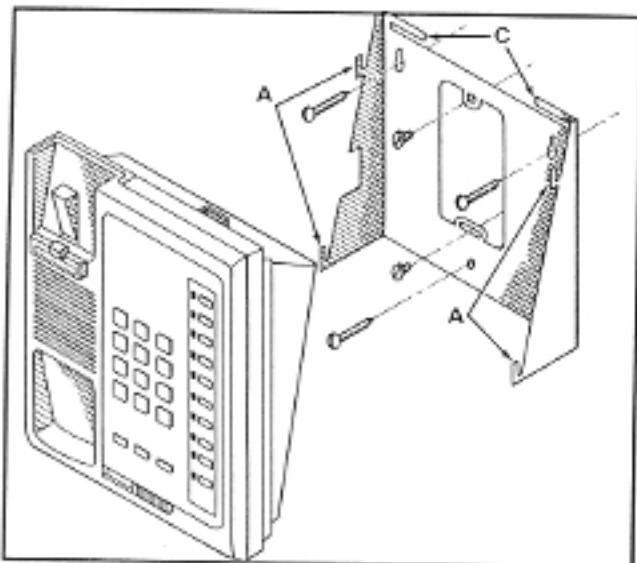
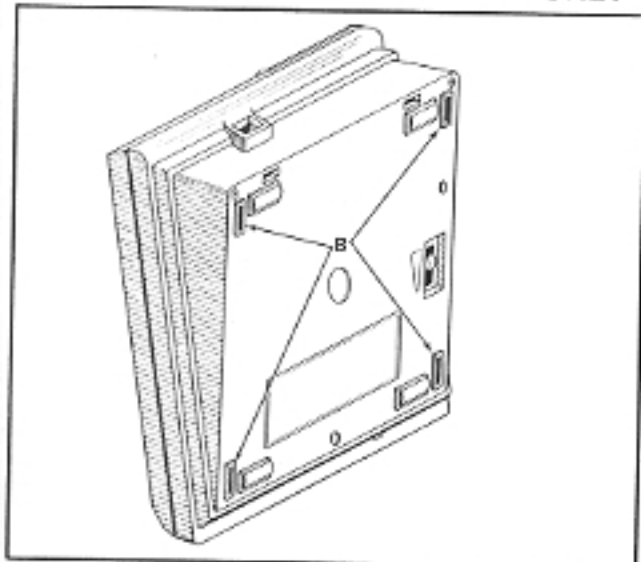

FIGURE 35—WALL MOUNT BRACKET
FIGURE 36—BRACKET SLOTS
08.14 With the wall bracket the S EKT can be mounted to any suitable vertical surface or to a telephone outlet plaster ring (see Figure 35). Secure the wall bracket to the desired wall site, and use a spirit level, if necessary, to make certain the bracket is level.
08.15 The EKT is placed on the wall bracket by mating the bracket's four hooks (A—Figure 35) with the four slots on the EKT base (B—Figure 36) and sliding the EKT downward. The EKT is secured in position by bending the two tabs (C—Figure 35) forward to prevent upward motion of the EKT.